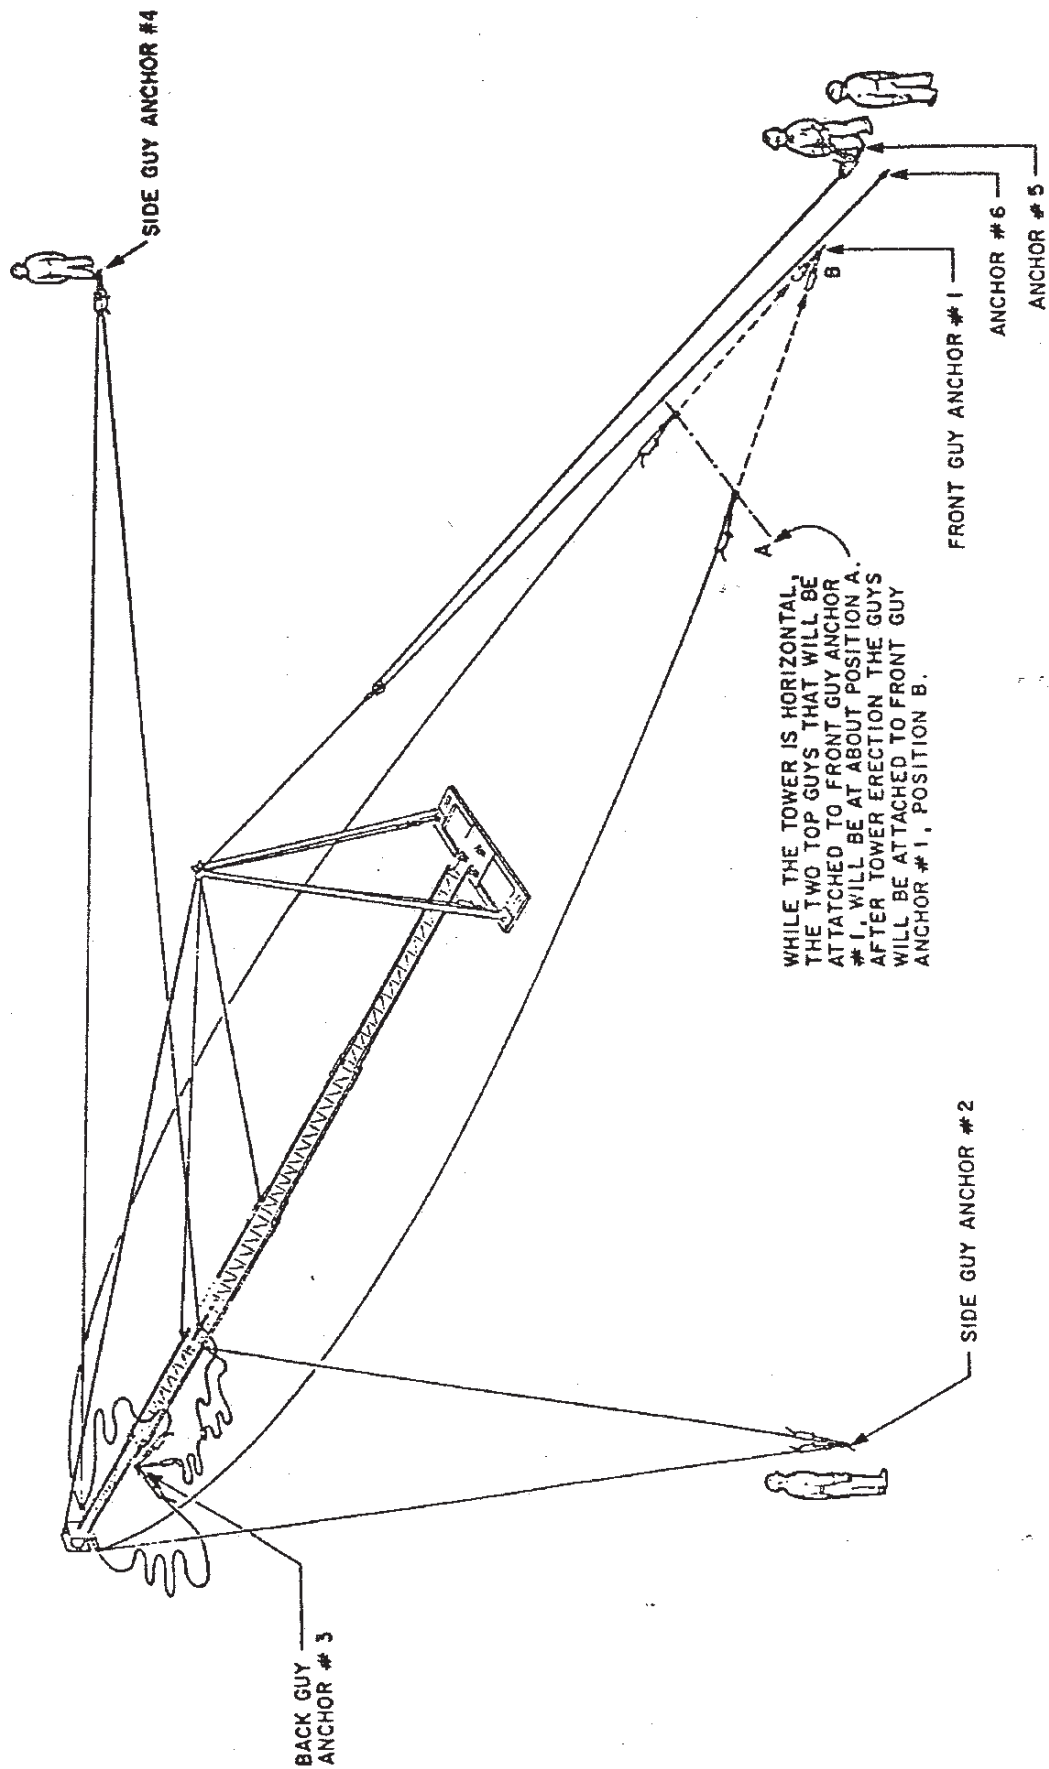

Figure 2-24
- p. When the gin pole is vertical (Figure 2-24) adjust the turnbuckles on the base plate so there is equal tension on the knee cables and pulling cables
- a. One man will take a position between anchors 5 and 6 as shown in Figure 2-24, who will now be referred to as the "man in charge" during the erecting procedure.
- b. Position a man at each side guy anchor as shown in Figure 2-24. These men will make guy adjustments as required when instructed by the man in charge.